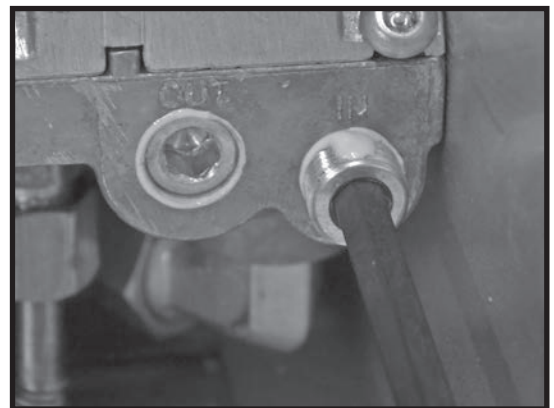

Figure 43: Testing port caps with thread sealant.
6. After testing is finished turn off gas supply, remove the pressure guages, apply thread sealant to cap ends and re-tighten (Figure 43).